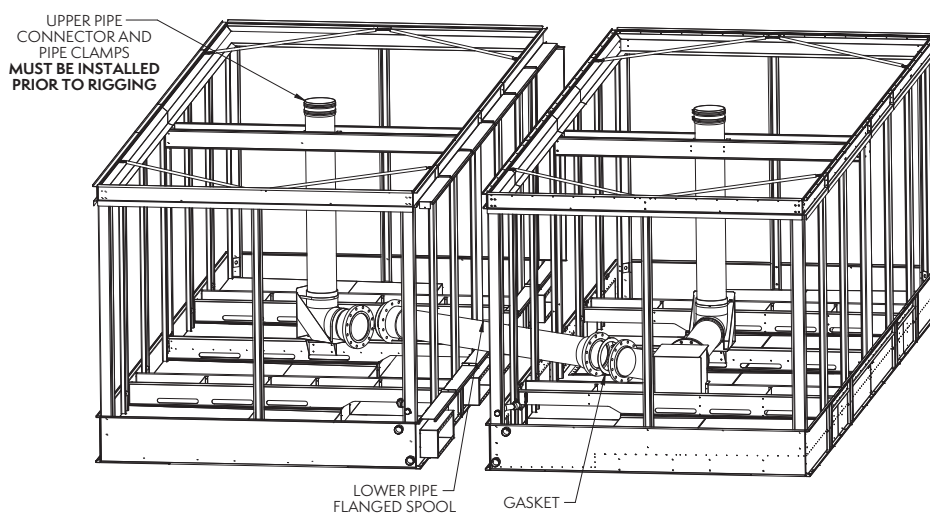

Figure 9 – Installation of Bottom Inlet Piping
6. After tower is fully installed, insert the lower pipe flanged spool with gaskets between flanges, as shown in **Figure 9**. Use hardware noted in **Table 3**. Please note, the basin section has cross braces for shipping support. One of these cross braces will be in the way of the pipe spool, please remove this cross brace prior to installing the pipe spool. The cross brace does NOT need to be reinstalled after the pipe spool has been installed.